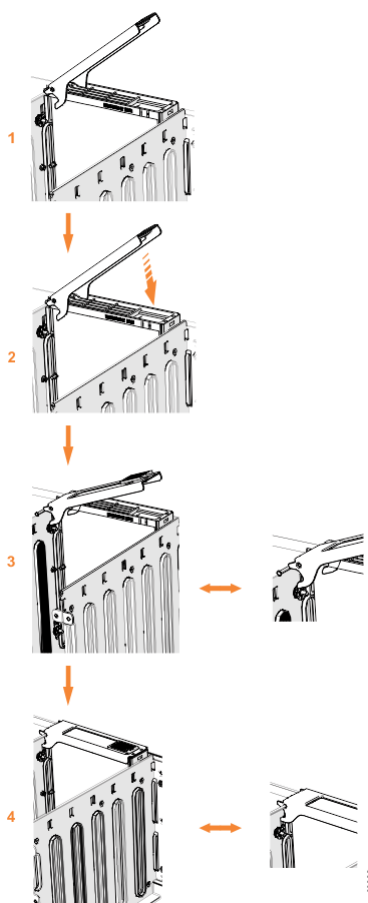

Figure 153. Replace the drive
14. Ensure that the drive handle (1 in Figure 153 on page 186) of the drive assembly is in the open (unlocked) position.
16. Lower the drive down, without pushing, until it stops and the bottom of the latch is aligned with the top of the partition. Ensure that the handle is not open more than 45 degrees from the drive carrier. (2 in Figure 153 on page 186). If the drive does not slide down easily then inform IBM remote technical support.
17. Rotate the handle down to lock the drive assembly into the chassis (3 in Figure 153 on page 186).
19. Ensure that the top toe of the latch is also fully engaged (4 in Figure 153 on page 186).